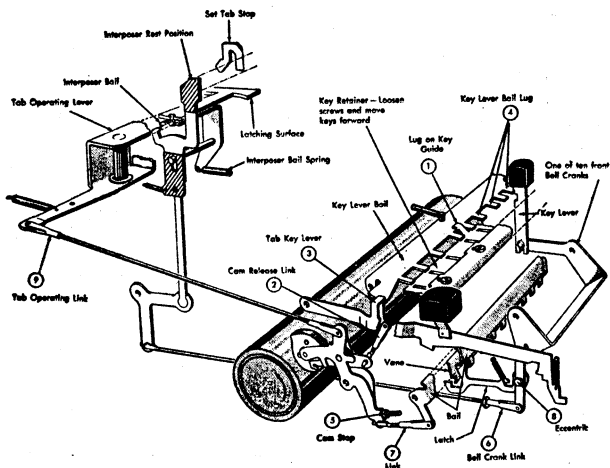
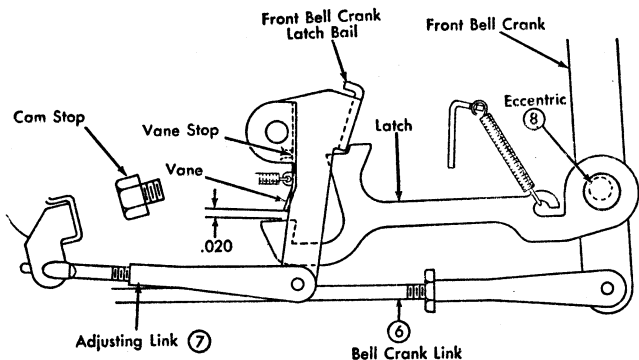
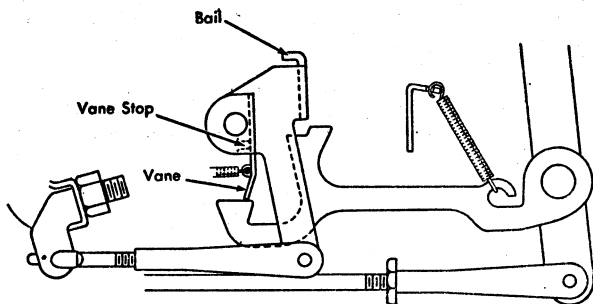

Figure 1. Decimal Tabular Mechanism
Figure 2. Cam on High Point
Figure 3. Cam Restored, Key Held Depressed.
- 1. THE LUG IN THE CENTER OF THE DECIMAL TAB KEY GUIDE** should be formed so that the majority of the lugs on the bail rest $1/16''$ below the top of the notches cut in the back edges of the decimal tab key levers (Figure 1).
7. **THE ADJUSTING LINK ON THE BOTTOM OF THE TAB CAM** (Figure 1), should be adjusted so that with the key lever depressed and with the cam on its high point, the latch vane will clear the latches by .020" (Figure 2). With the key lever still depressed allow the tab lever to unlatch. The vane should then rest on the latch by approximately .020" (Figure 3). If this overlap is not evident, form the right extension of the vane to provide this condition.
8. **THE ECCENTRICS ON THE FRONT BELL CRANKS** (Figure 2) should be adjusted so that the front bell cranks will safely latch before the tab cam is released. With the front bell crank latched, its interposer should be high enough to allow the interposer bail on the rear rail to engage it properly.
9. **THE TAB OPERATING LINK** should be adjusted so that with the cam on its high point the tab operating lever will move far enough to latch safely (Figure 1). The tab operating lever should not restrict the interposers at rest.